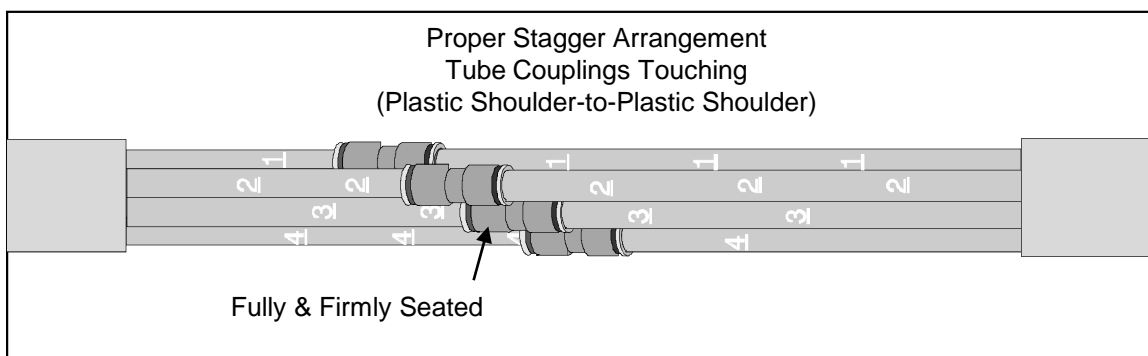

Figure 5
7.5 Be sure to accomplish Tube Coupling stagger arrangement at each splice point as described in SRP SP-F04-015. This arrangement places the plastic shoulder of one Tube Coupling against the plastic shoulder of an adjacent Tube Coupling. This is necessary to prevent a Tube Coupling from being pressed into and possibly compressing / kinking an adjacent bare tube. **See Fig. 5.**